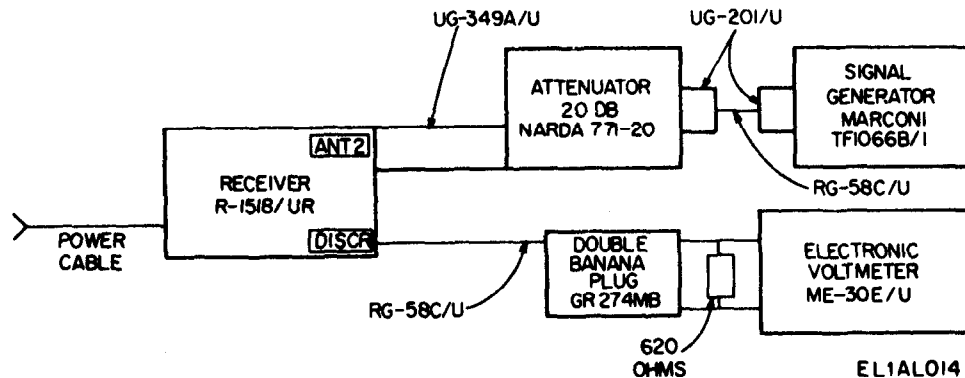

Figure 6-6. Discriminator output test connections.
- (1) Perform a (1) above.
- (2) Connect the test equipment as shown in figure 6-6.